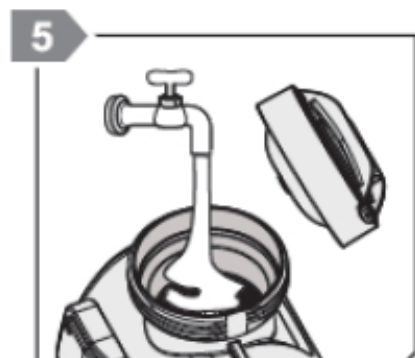

Fig. 20: Functional test with water
Step 6: Test the battery pressure sprayer at first with water before adding chemicals (Fig. 20).